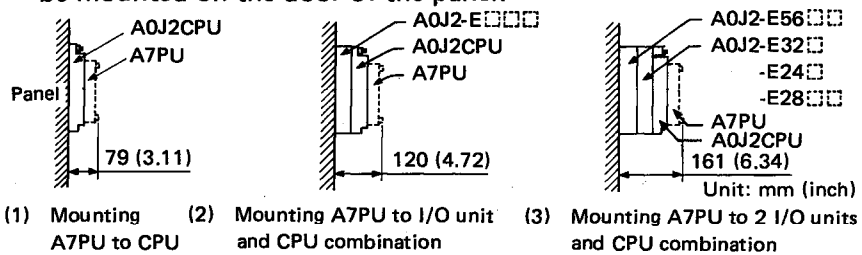
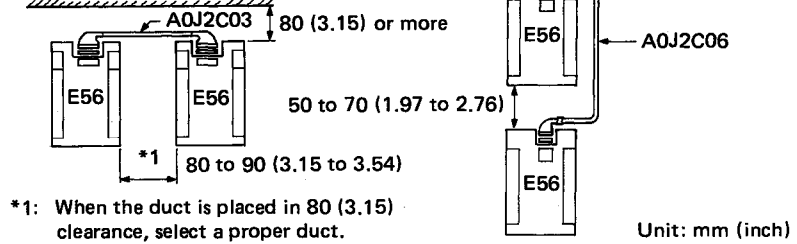

Fig. 5.1 Dimensions in Unit-to-Unit Mounting
Fig. 5.2 Side-to-Side Installation Fig.5.3 Top-to-Bottom Installation
However, if the dimensions from the top and bottom of the PC are less than those shown in Fig. 5.1, note the following points:
- (1) For the mounting hole positions of each unit, refer to Appendix 1, Dimensional Outline Drawing.
- (2) Fig 5.1 shows dimensions when the A7PU is mounted on the CPU unit. For the dimensions of side-to-side and top-to-bottom arrangements, refer to the Fig. 5.2 and 5.3, respectively.